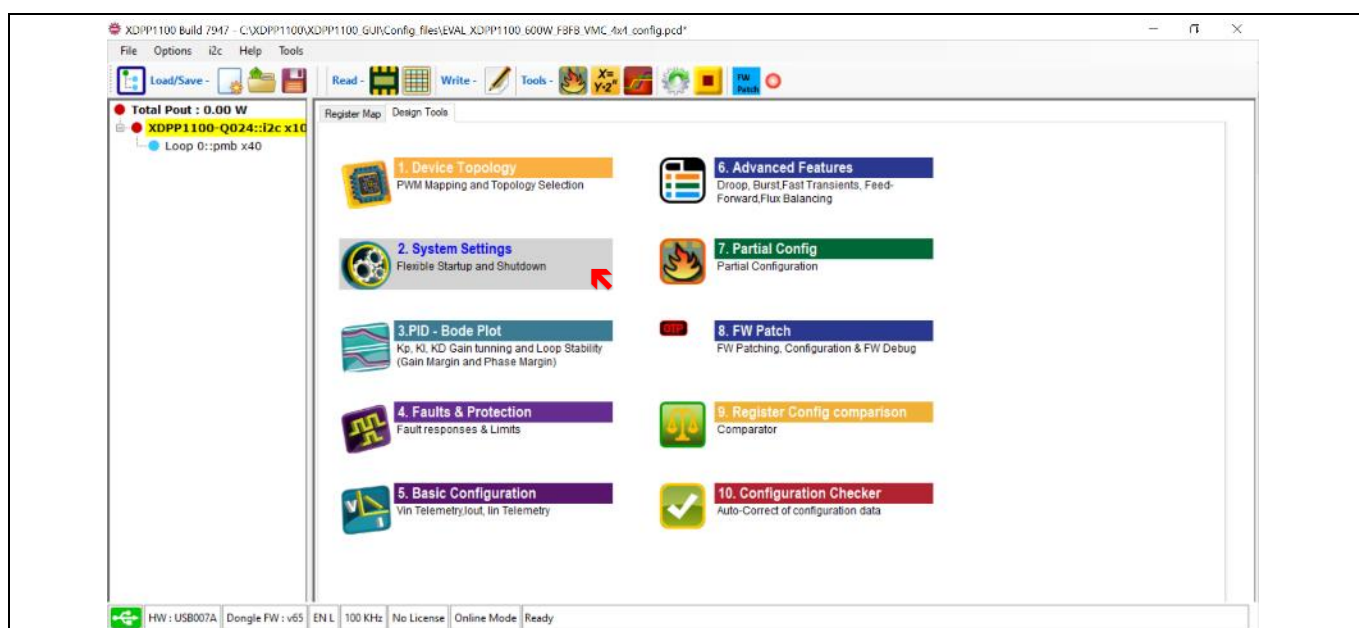

Figure 21 System settings (flexible startup and shutdown)
- Click the **XDPP1100-Q024::i2c x10** (highlighted in yellow in Figure 21).